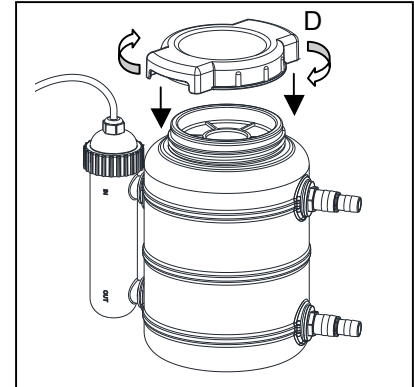

Fig. 9
9. Screw the lid onto the top of the tank. Make sure that it is secure, or the filter will leak. Fig. 9